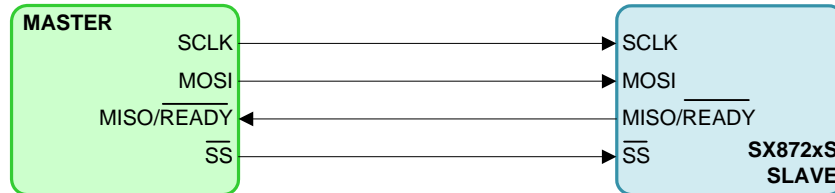

Figure 26. Example of 4-wire Slave
**RegACCfg4[0x56]** determines the function of this pin. As illustrated in **Figure 26**, four wires are necessary to connect the master in this mode if to be synchronized to the ADC end of conversion. The *DataReadyEn* bit modifies only the *MISO/READY* pin functionality. The *READY* pin functionality remains unaffected. In either mode, the *MISO/READY* pin goes to a high-impedance state when  $\overline{SS}$  is taken high.